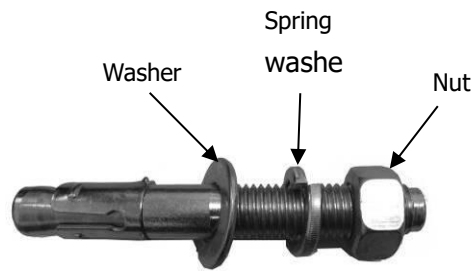

Fig.38
1. Prepare the anchor bolts (See Fig. 38)